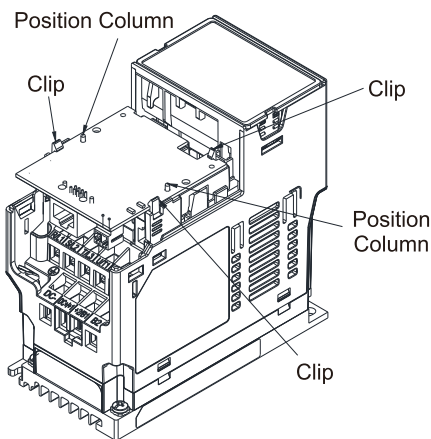

Figure 3-10
5. Assemble the option card: Have the terminal block and connector of the option card face downward, aim the two holes of the option card to the position column and press downward so that the three clips engage the option card, as shown in Figure 3-10.